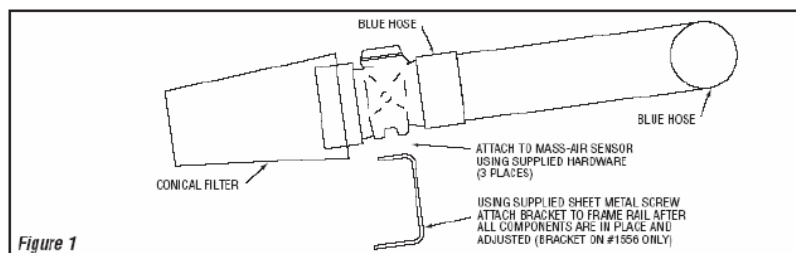
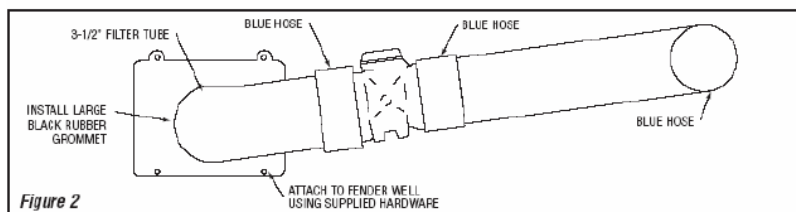

Figure 1
Figure 2
- To finish the installation simply install the components in the vehicle as shown in **FIG.1**. For fender well-style kits install components as shown in **FIG.2**.